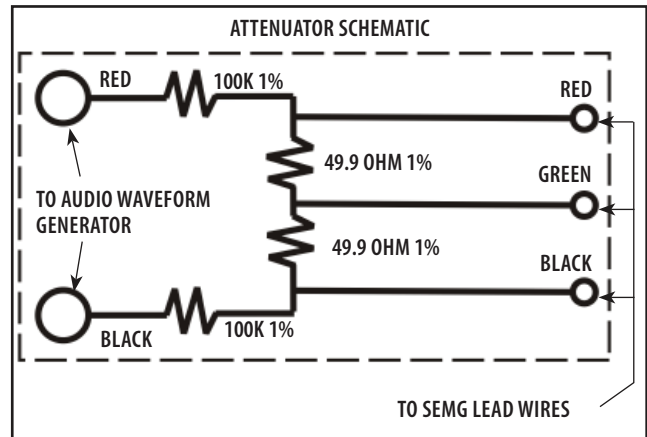

FIGURE 5.28
1. It will be necessary to build an Attenuator for this test. **See Figure 5.28** for schematic of the required Attenuator.